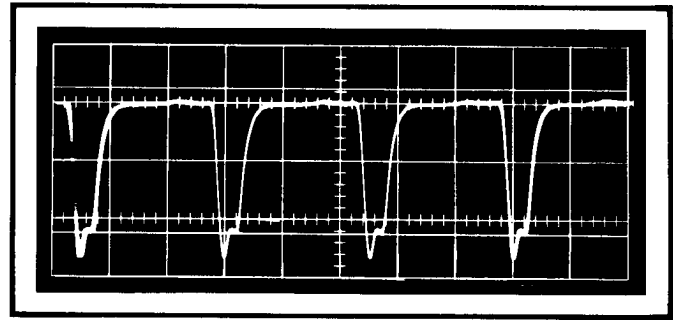

Figure 4-9 Trigger Signal Waveform
k. **Trigger Check.** Requirement: -4 V trigger signal occurring once for each clock cycle. Trigger the test oscilloscope internally and set input sensitivity to 2 V/cm. Disconnect the Model 132A output signal from the test oscilloscope; reconnect the signal from the TRIGGER OUTPUT connector to the scope input. The trigger signal will appear similar to Figure 4-9.